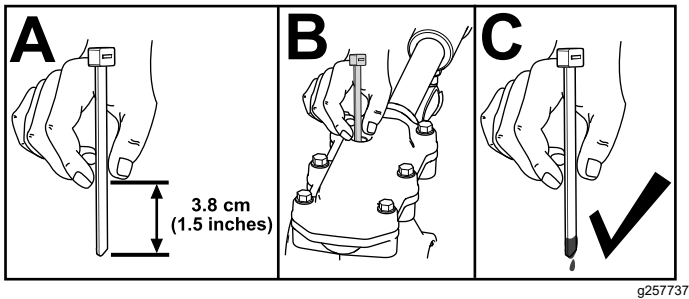

Figure 34
3. Check the oil level using a suitable measuring device, such as a clean cable tie. The oil should be approximately 3.8 cm (1.5 inches) below the filler opening (Figure 34).